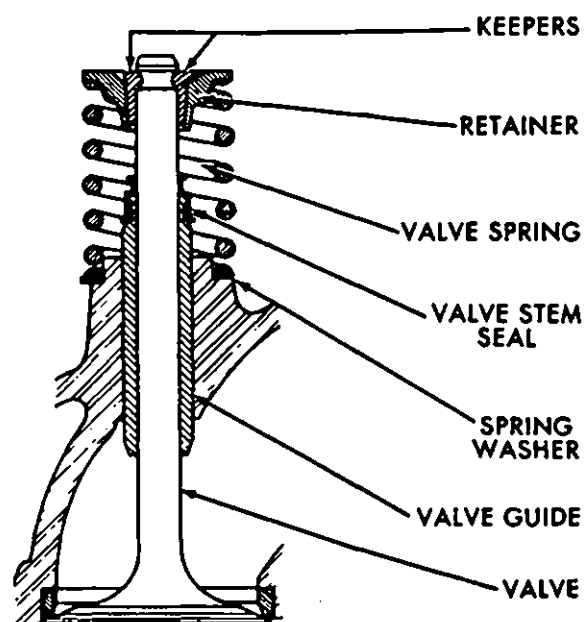

Fig. 6—Valve Components
(3) Install spring washers, valve springs, retainers and keepers (Fig. 6).